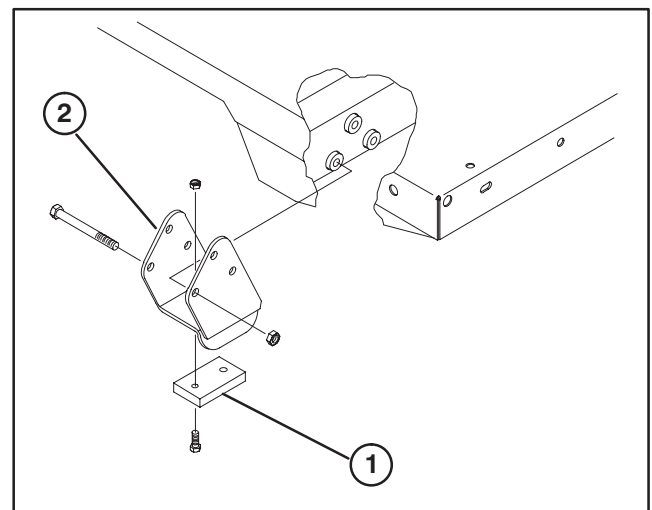

Figure 4
3. Mount a wear block to each spacer bracket (L.H. and R.H.) with (2) pan head screws and locknuts (Fig. 4).
4. Mount spacer brackets to front of R.H. and L.H. bed frame channels with (3) 3/8-16 x 3-3/4" lg. capscrews and locknuts. Position brackets on channel as shown in figure 4.